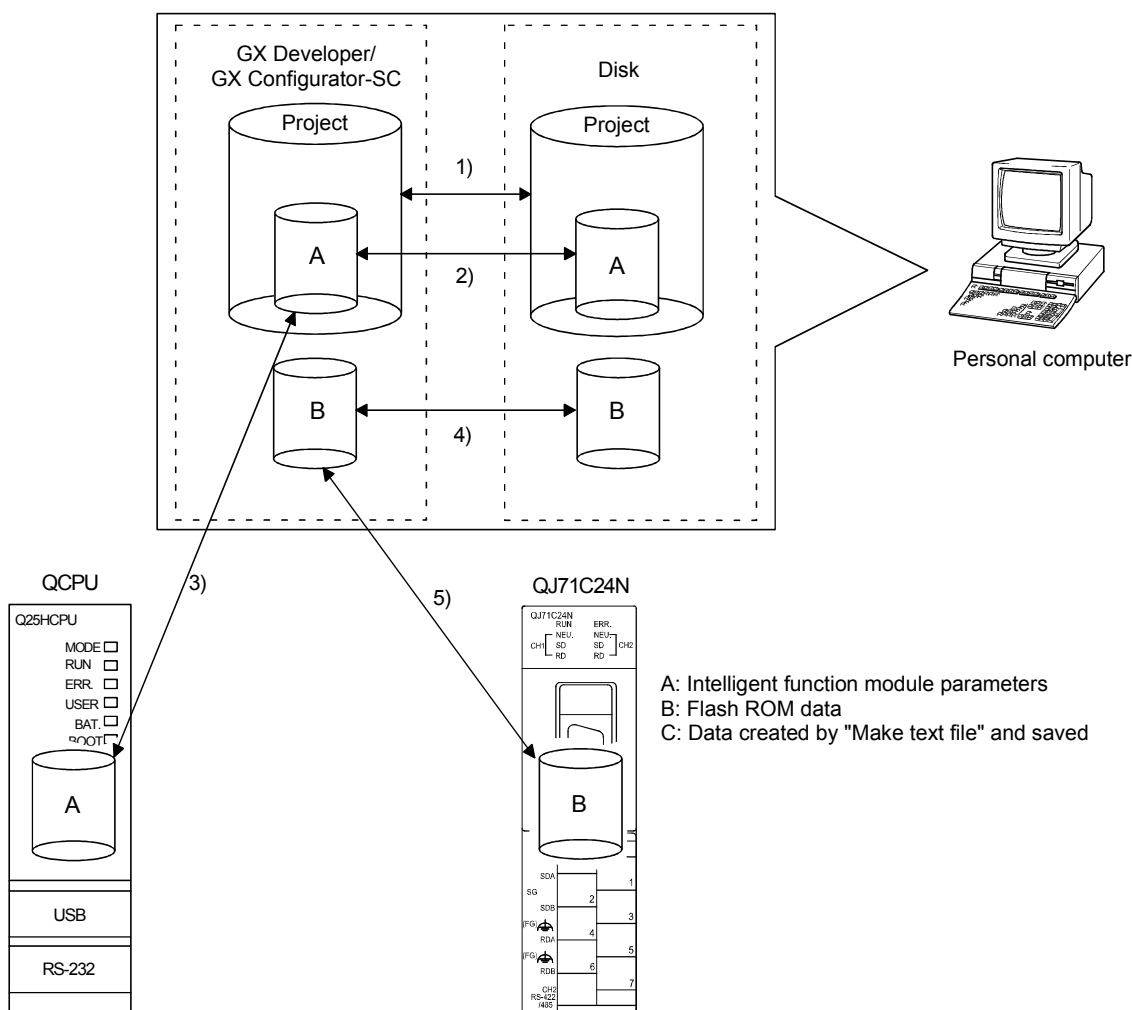

Figure 9.1 Correlation chart for data created with the utility package
The following data or files that are created with the utility package can be also handled in GX Developer. Figure 9.1 shows respective data or files are handled in which operation.
- (b) Steps 1) to 3) shown in Figure 9.1 are performed as follows:
- (b) Steps 4) and 5) in Figure 9.1 are performed as follows: